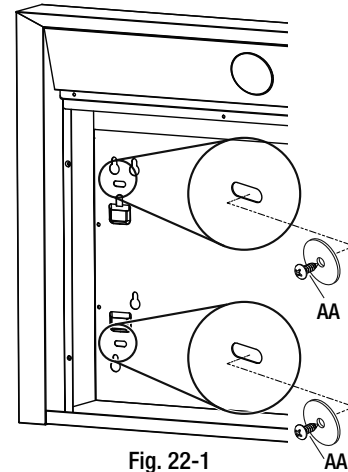

Fig. 22-1
- Frameless cabinet installation requires four long tapping screws (AA) with washers. Use the two slots on each side to secure the range hood directly to the cabinet shown in figure 22-1.